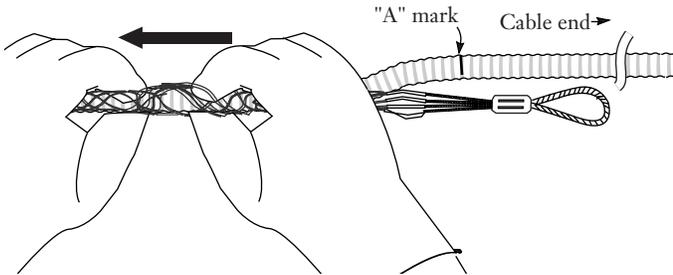

Figure 17
5.6 Use a pumping action to “walk” the grip over the cable by bringing your hands together and then relaxing them until the end of the grip is past mark A on the cable (Figure 17).